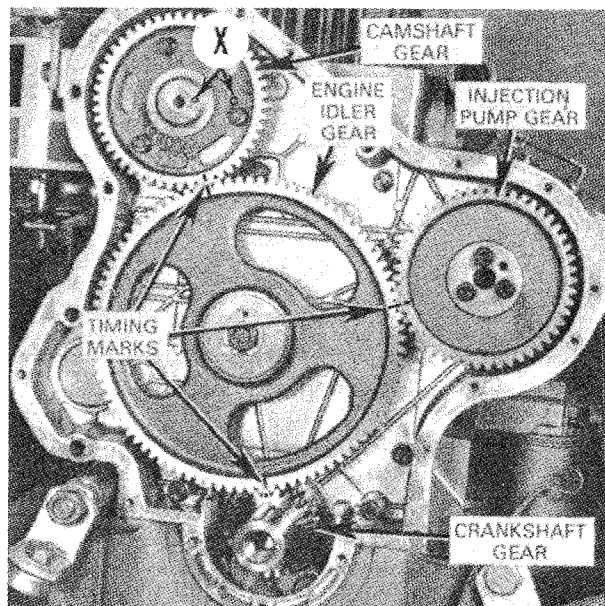

Fig. 67—View of timing gear train with timing marks aligned. Due to odd number of teeth on idler gear, marks align only once in 18 revolutions of crankshaft.
65. Fig. 67 shows a view of timing gear train with cover removed. Before attempting to remove any of the timing gears, first remove fuel tank, rocker arm cover and rocker arms assembly to avoid the possibility of damage to pistons or valve train if camshaft or crankshaft
66. **CAMSHAFT GEAR.** The gear is attached to camshaft by three equally spaced cap screws which thread into camshaft flange. It is possible, therefore, to install the gear in three positions, only one of which is correct. To correctly install the gear, align the stamped letters "D" on camshaft hub and front face of gear as shown at (X—Fig. 67). Tighten cap screws to 27 N · m (20 ft.-lbs.) torque.
When reinstalling gear, make certain all timing marks are aligned as shown in Fig. 67. Tighten retaining cap screw to 68 N · m (50 ft.-lbs.) torque.
69. TIMING THE GEARS. Due to the odd number of teeth on idler gear, the timing marks will align only once in 18 crankshaft revolutions. To time the engine after the gears are removed, first install camshaft gear as outlined in paragraph 66 and the injection pump gear as in paragraph 67. Install the crankshaft gear on keyed shaft with timing mark to the front. Refer to Fig. 67 and turn crankshaft, camshaft and injection pump until the respective timing marks point approximately toward idler gear hub; then, install idler gear aligning timing marks as shown.
To reinstall camshaft, reverse the removal procedure. If camshaft gear was removed, be sure stamped letters (X—Fig. 67) on gear and camshaft flange are aligned. Tighten gear retaining cap screws to 27 N · m (20 ft.-lbs.) torque.